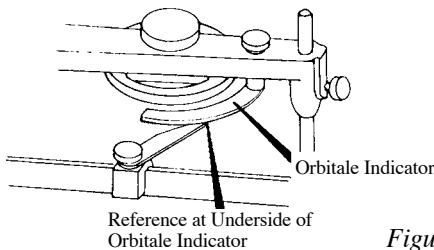

Figure 14A
13. Some HANAU™ Articulators are furnished with an Orbitale Indicator as an anatomical simulation of the patient's infra-orbitale notch. The top of the Anterior Patient Reference (orbitale pointer) on the Spring-Bow shall be aligned to the underside of this Orbitale Indicator, Figure 14A.